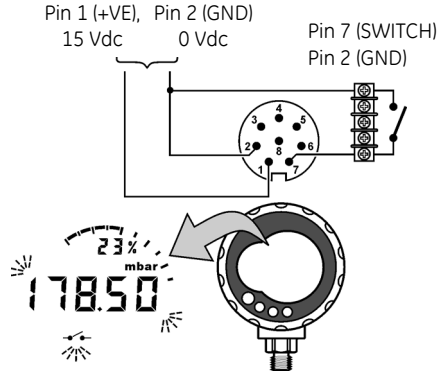

Figure 2: Example configuration - Switch input
1. Connect the DPI 104-IS (Figure 2/Table 5).
Figure 2 shows the display when the switch condition changes (open or closed). The analogue dial and the % indication continue to monitor the normal pressure.